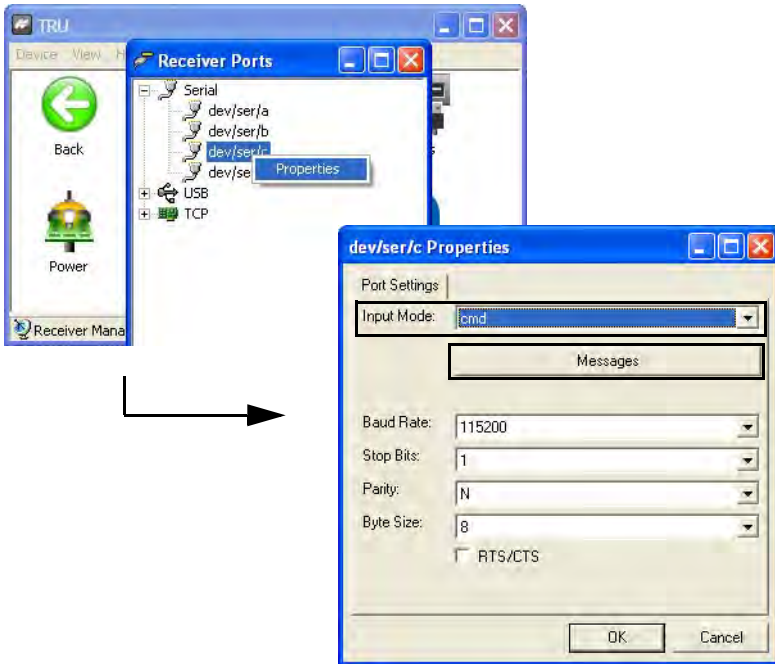

Figure 3-23. RTK Input Format
12. To choose the RTK input format for the Base receiver, click **dev/ser/c** and click **Properties** from the *Receiver Ports* screen. Then select **cmd** as the *Input Mode* in the *dev/ser/c Properties* screen (Figure 3-23) and click **Messages**.